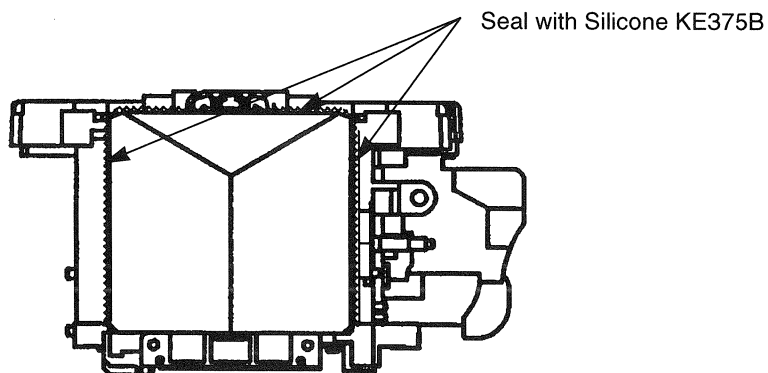

Fig. 3-27 Pentaprism Sealing
- After installing the pentaprism, seal it with Silicone KE375B as shown in figure 3-27.